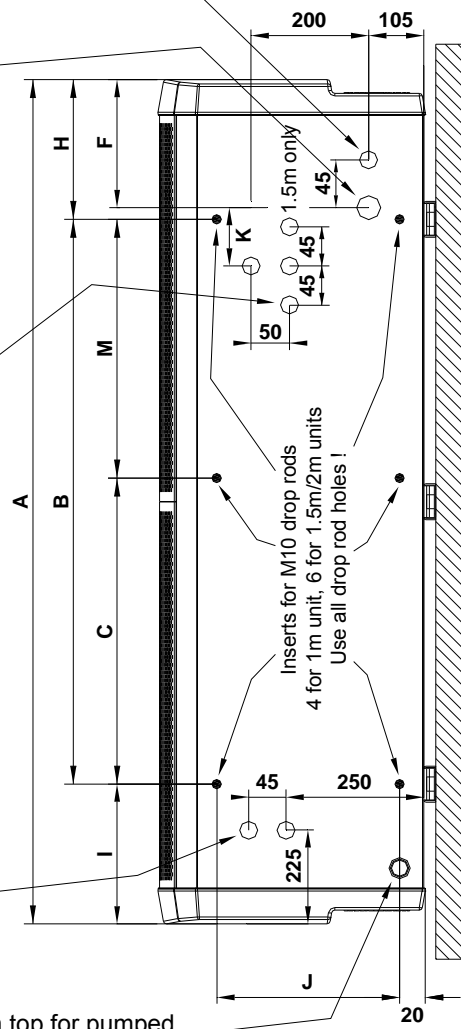

FIGURE 2 – DIMENSIONS OF HP HEAT PUMP AIR CURTAIN
be located inside the right hand end of the air curtain or in a remote location outside of the unit if required. It must be of sufficient capacity, see Page 19, self priming and capable of providing the appropriate suction head so the pump will lift condensate out of the air curtain, particularly if it is in a remote location. There are two hole penetrations at the right hand end of the air curtain for condensate pipework to pass through, see Figure 2, Page 11. Suitable condensate pumps are Peristaltic or Rotary Diaphragm type. We recommend the Blue Diamond rotary diaphragm type with cooling signal sensor (drainStik) manufactured by Charles Austen Pumps Ltd. (www.miniblue.co.uk).
Step 1. Refer to Figure 2, Page 11 for mounting details and drill the fixing points in the wall.
M10 threaded inserts are provided in the top face of the unit (see Figure 2, Page 11 for positions) so it can be suspended on M10 threaded hanging rods (not provided). All suspension points must be used. Ensure each of the hanging rods is secured onto a suitable structure that can support the weight of the unit (see table above)*. Screw the hanging rods into the inserts by a minimum of 20mm and fit locking nuts (not provided) to prevent the rod rotating and coming away from the casing. Do not screw the hanging rod too far in or it could interfere with internal components.
It is intended that refrigerant pipe connections to the air curtain are made using brazed joints and these must be carried out in a professional and safe manner. If installation pipe sizes for the discharge (gas) line and liquid line are different from the pipe connection sizes on the air curtain (see Figure 2, Page 11) suitable pipe reducers must be used for the connection. R410A refrigerant systems can operate at pressures up to 610 psi (c. 42 Bar). These brazed joints may well be located in a public area and a weakness leading to an explosion could be extremely dangerous.
- A 25mm size cable gland or conduit connector should be used for the Electrical Supply into the air curtain. See Figure 2, Page 11 showing where the electrical supply enters the unit.
The air curtain is fitted with a condensate drain tray with 15mm copper outlet pipe at the right hand side of the air curtain. Suitable condensate hose can be fitted to the pipe (see picture) and fed through a 20mm hole at the back of the unit, see Figure 2, Page 11, so condensate will gravity drain away. Means of condensate disposal must then be provided at the rear of the air curtain.
There is space inside the air curtain at the right hand end of the unit to mount a condensate pump. A permanent 230V AC, single phase electrical supply is provided inside the air curtain at the DIN-Rail terminals to power the pump. See Wiring Diagrams 1 & 2 on Pages 16 and 17. There are two 20mm condensate outlet holes in the casing, one at the top of the unit and a lower one at the rear, both fitted with rubber plugs (see Figure 2, Page 11). These can be used to feed a hose from the condensate pump to a remote condensate drain.